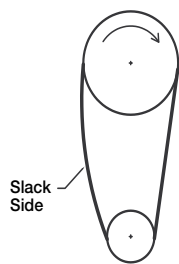

Figure 12a
- Sizes 097-160:** Belts should be tensioned just enough to prevent slippage at full load. Belts should have a slight bow on the slack side while running at full load, see Figure 12a.